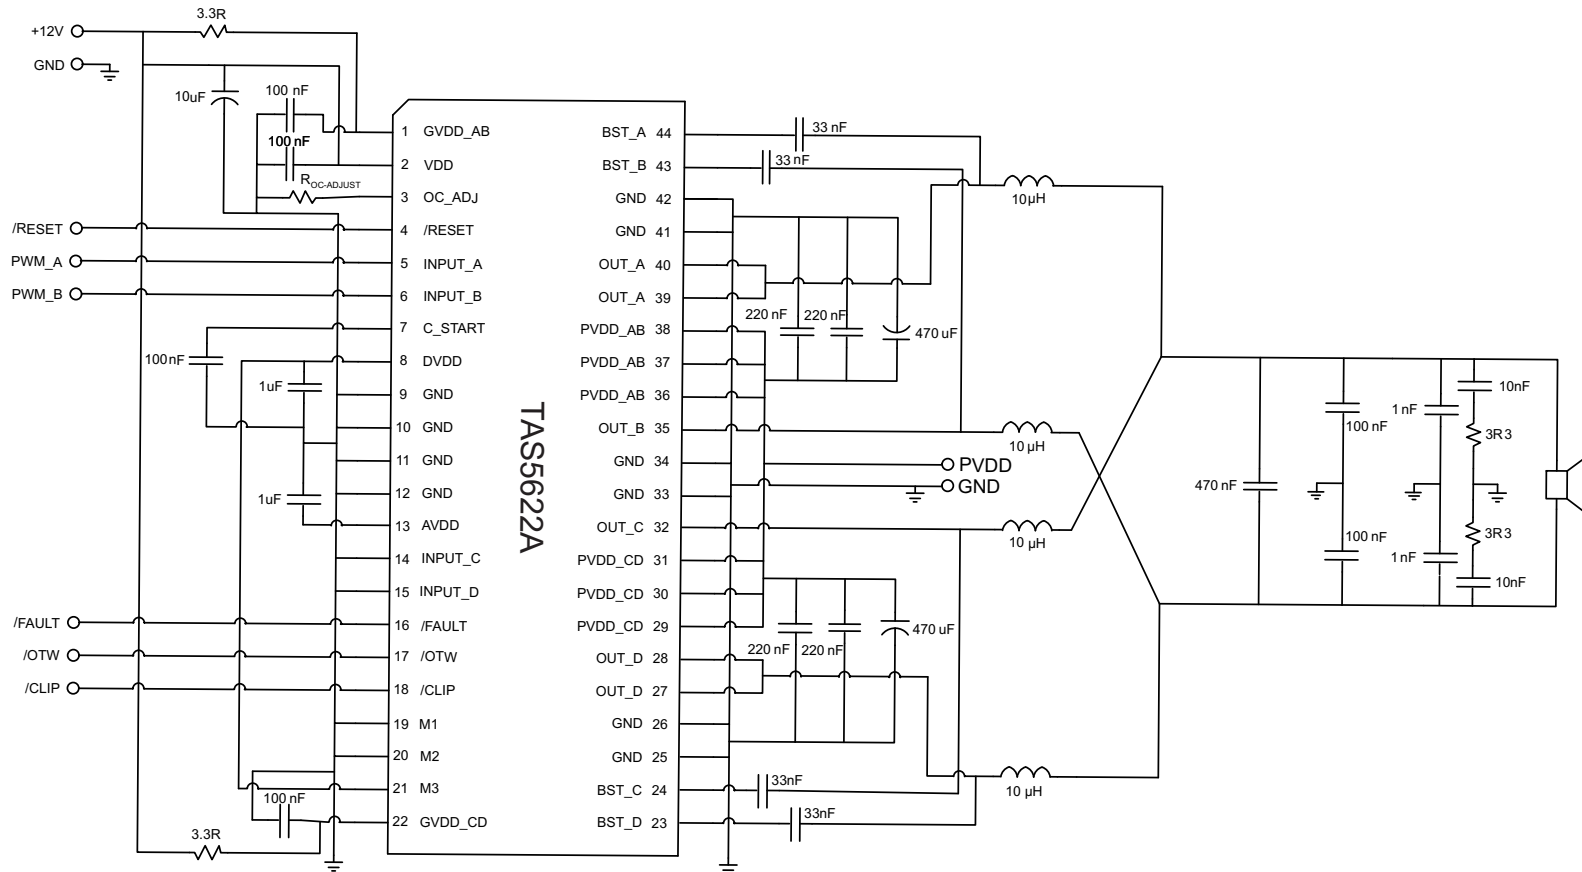

图 22. Typical Differential (2N) PBTL Application With AD Modulation Filter
See 图 22 for application schematic. In this application, one differential PWM input is used with AD modulation from the PWM modulator such as the TAS5558. AD modulation scheme is defined as PWM(+) is opposite polarity from PWM(-). The output PBTl configuration is often used to drive lower impedance load such as a subwoofer.
- Pins 27, 28, 32, 35, 39, 40 - Output pins from half-bridges A, B, C, and D. Connect appropriate bootstrap capacitors and differential LC filter as shown in 图 22.
- Pins 29, 30, 31, 36, 37, 38 - Power supply pins to half-bridges A, B, C, and D. A and B form a full-bridge and C and D form another full-bridge. A 470-μF bulk capacitor is recommended for each full-bridge power pins. Two 0.22-μF decoupling capacitors are placed on each full-bridge power pins. See 图 22 for details.